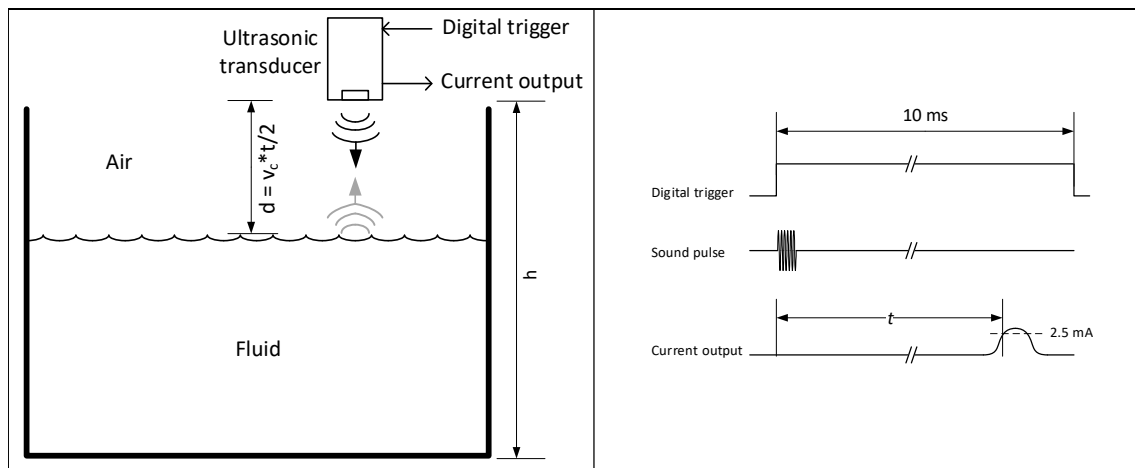
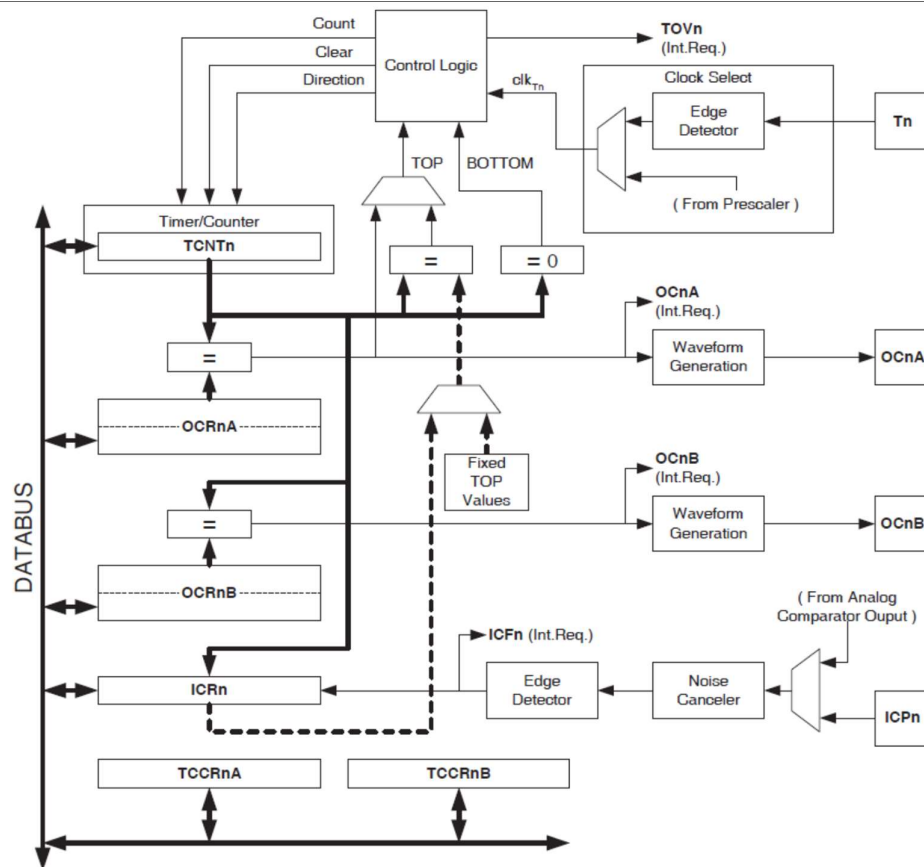

Figure 2. Ultrasonic transducer measuring the fluid level of a tank.
Figure 3. Diagram showing Timer/Counter 1 and 3 in the AVR ATmega162.
- b. Node A employs the ultrasonic transducer described in Figure 2 to monitor the fluid level of a tank. Assume the ATmega162's system clock is driven by an external 4 MHz crystal oscillator and use the output compare match unit B of Timer/Counter 1 module described in Figure 3 to time the 10 ms measurement interval of the transducer. The OC1B pin can be set and cleared on match to generate the digital trigger signal.